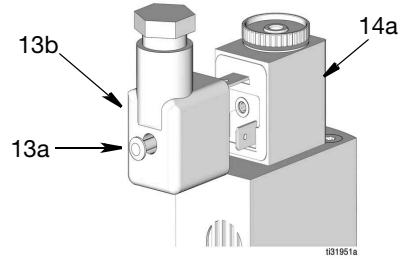

FIG. 25
4. Loosen screw (13a) on the back of the mini DIN solenoid connector (14a) and disconnect it from the solenoid connector (14a) (FIG. 25).